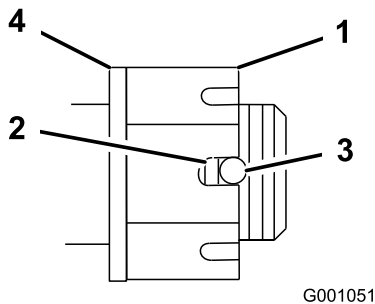

Figure 54
4. Check the distance from bottom of slot in nut to inside edge of hole. Two threads or less should be showing (Figure 54).
6. Torque the slotted nut to 125 ft-lb. (170 N-m) (Figure 54).
7. Tighten the nut until the next set of slots line up with the hole in the shaft (Figure 54).